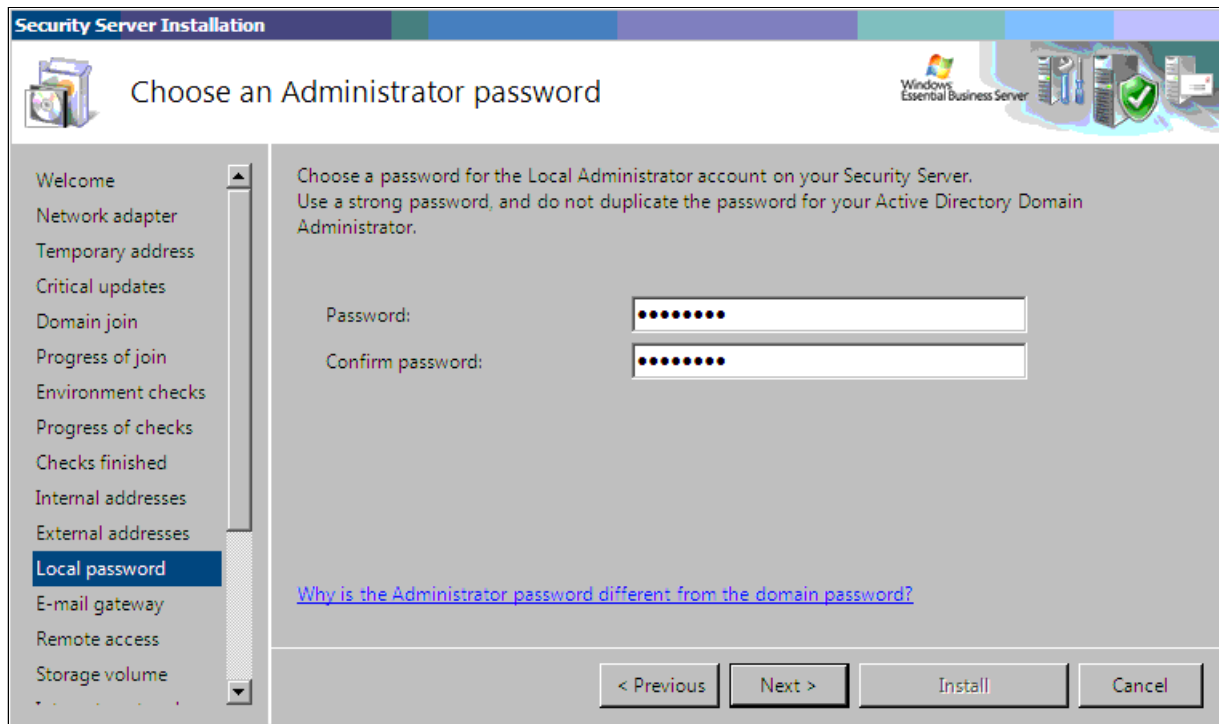

Figure 4-29 Choose an Administrator password
19. On the “Choose an Administrator password” panel (Figure 4-29), type a new password for the Directory Services Restore Mode. This password should be different from the passwords that you use to log on as a domain administrator and that you used to join the Active Directory domain. Confirm the password, and click **Next**.